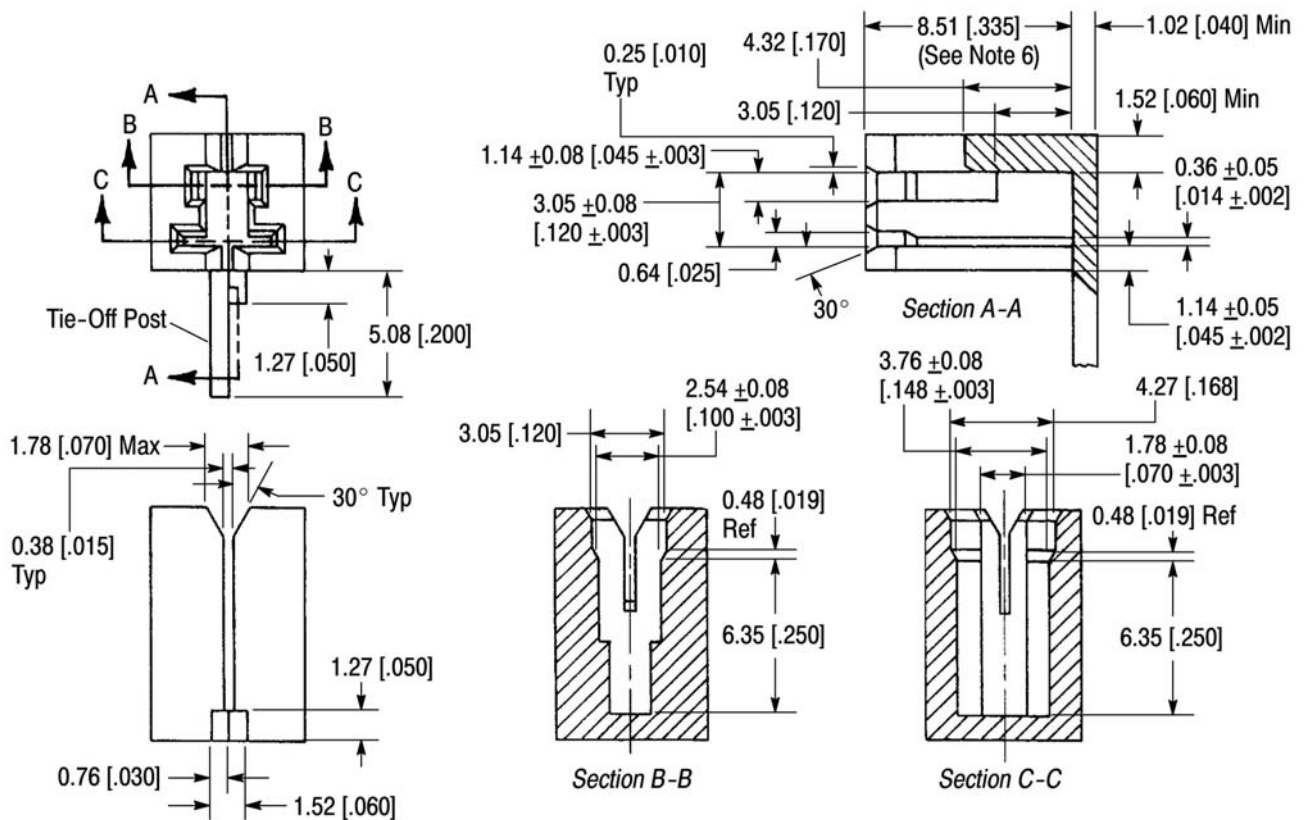

Figure 4
Closed cavity design shall meet the requirements specified in Figure 4 for tab and post interface types and Figure 5 for poke-in lead wire type.
Closed cavity design specified in Figures 4 and 5 may be commoned in accordance with the requirements specified in Figure 6 to produce a commoned closed cavity.
**NOTE:** Commoned cavities otherwise same as in Figures 4 or 5.